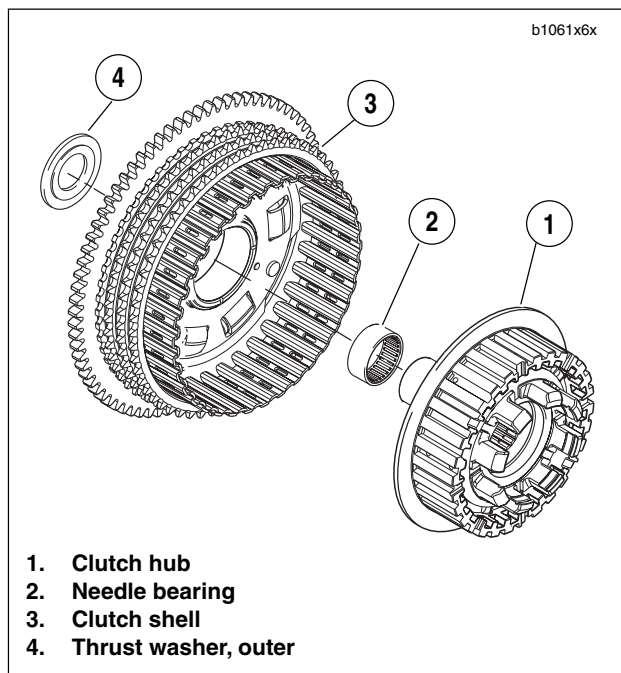
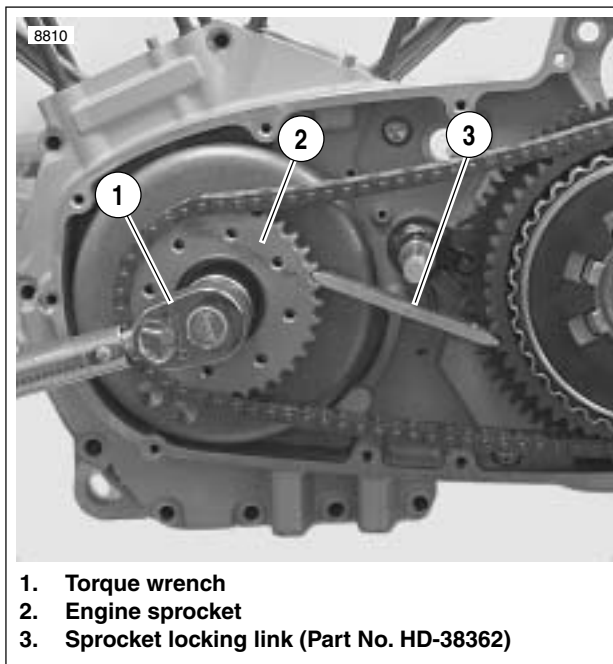

Figure 6-30. Clutch Hub and Shell Assembly
Figure 6-31. Sprocket Locking Link
1. See Figure 6-30. Assemble clutch hub (1) and shell (3) by sliding inboard end of clutch hub into shell bearing (2) by hand. No tools are required.
3. Verify that outer thrust washer (4) is installed on transmission shaft.
5. See Figure 6-31. Install the engine sprocket nut.